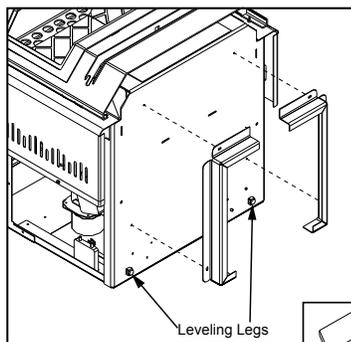

Figure 22: Installing Pedestal
There are two parts to the GFI55 insert pedestal and they can be found inside the hopper. Place unit on its back. Two (2) hex head screws are used on each side of the pedestal (refer to Figure 22). Using a $\frac{5}{16}$ " wrench or socket, secure the pedestal to the bottom of the unit.